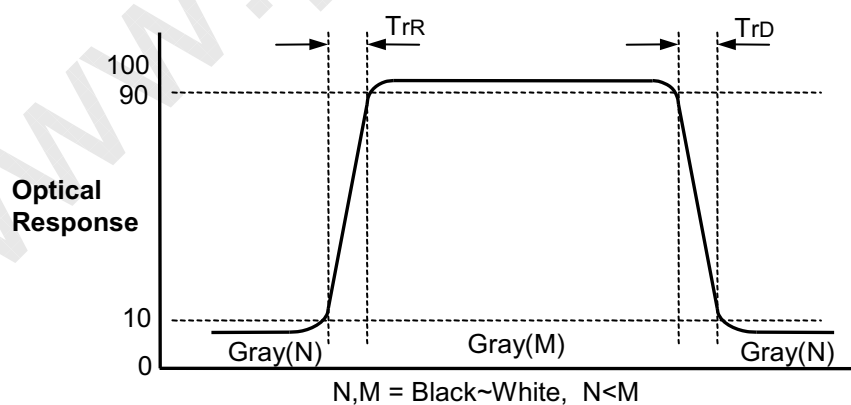

FIG.3 Response Time(G to G)
4. Response time is the time required for the display to transit from G(N) to G(M) (Rise Time,  $Tr_R$ ) and from G(M) to G(N) (Decay Time,  $Tr_D$ ). For additional information see the FIG. 3. (N<M)